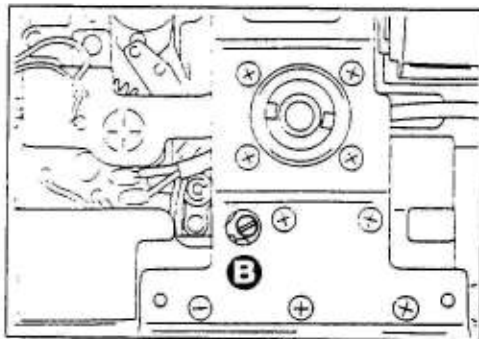

Fig. 4 Bottom view
Turn an eccentric pin (B), and adjust the clearance between the trigger switch contact (C) and working pin (D). (See Fig. 4.)